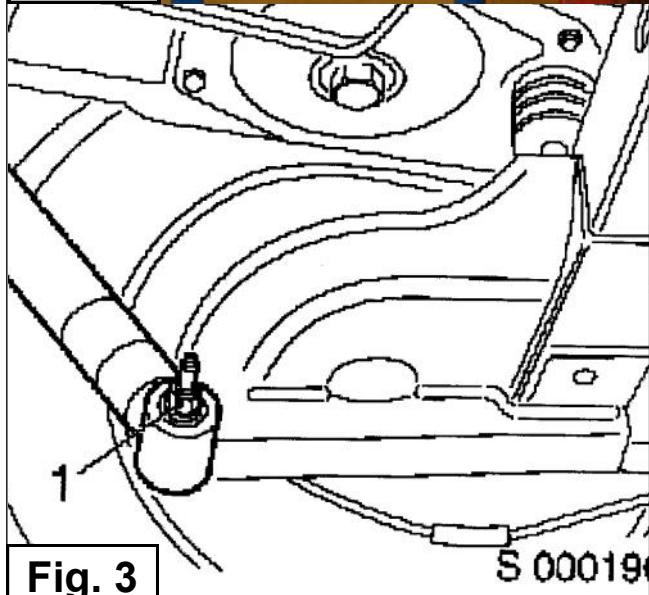

Fig. 2
2. Position 2 axle-stands beneath the chassis or towbar. See Fig 2.